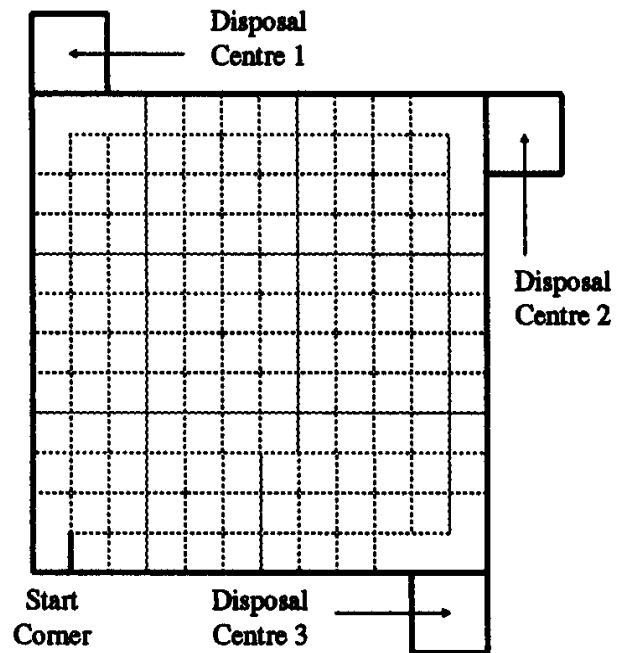

Figure 1: Start and Disposal Points and Grid Lines for Alley
- 2.1 The alley-ways shall be laid out on a platform by placing pieces of walls along the grids formed by multiples of 18 cm x 18 cm unit squares arranged in a 12 x 12 matrix as shown in Fig 1. The walls for lining the alleyways shall be 5 cm high and 1.2 cm thick. Passageways between the walls shall be 16.8 cm wide. The outside wall shall enclose the entire network of alleyways.
- 2.2 The start location for the robot shall be at one corner. Disposal centres shall be located next to the remaining 3 corners. There shall be clear passages along the alleyways adjacent to the disposal centres. Where there are no grid lines shown in the vicinity of the disposal centres, there shall be no walls. (See Fig 1) The start square shall have walls on 3 sides. The starting square orientation shall be such that when the open end is to the "north", outside walls are on the "west", and "south".